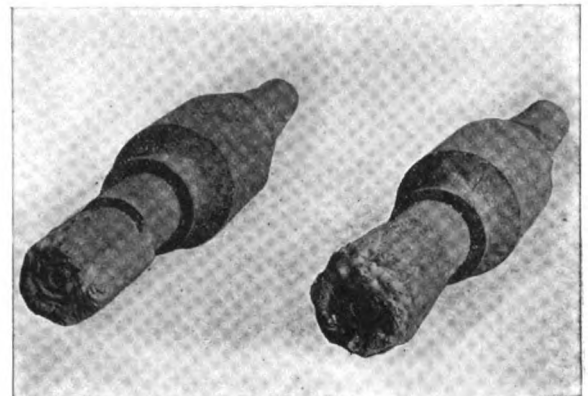

Fig. 118. Steel parts incorrectly machined built up by the arc welder and afterwards re-machined to proper size.
**T**O mention all of the applications of this process to even the fields covered by this magazine, is beyond the limitation of space, and a book might be written on the same. In figures 118, 118A, B, C, D, E, H, J and K are shown a number of the more simple applications. These are fundamental applications and variations of these applications will cover a large field. This process may be successfully used for building up worn places, cracks,